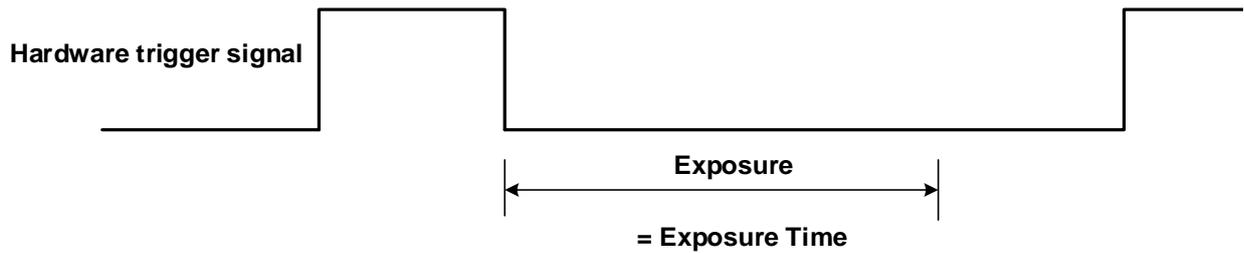

Figure 8-26 The sequence diagram in falling edge trigger of Timed exposure mode
- If falling edge triggering is enabled, exposure starts when the trigger signal falls and continue until the exposure time has expired, as shown in Figure 8-26